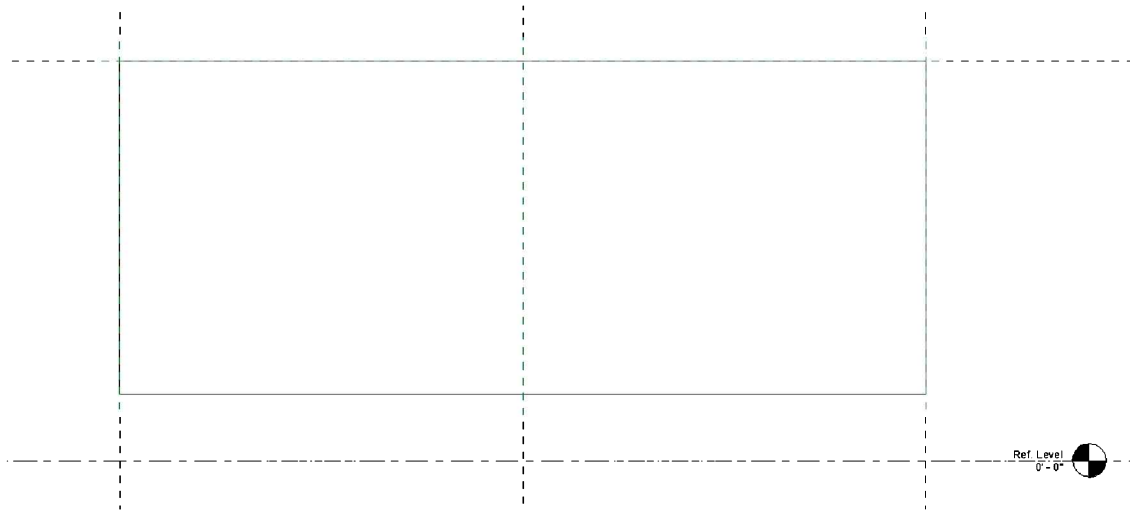

FIGURE 18-2.16 Bottom of 3D box repositioned
27. Click and drag the bottom grip up as shown in Figure 18-2.16; the exact position does not matter.